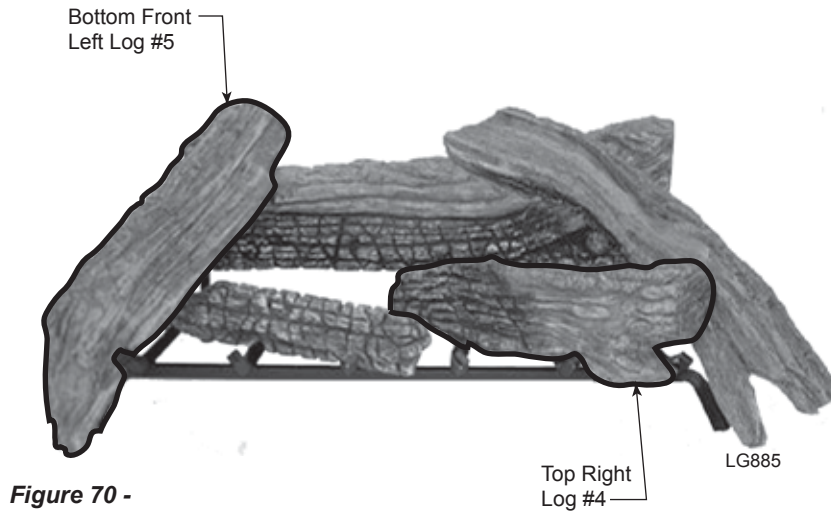

**Figure 70 -
5. Rest right end of Top Right Log #4 on bottom right log. *Figure 70*
6. Rest Bottom Left Log #5 on back log #1 and to the outside of the left grate prong. *Figure 70*